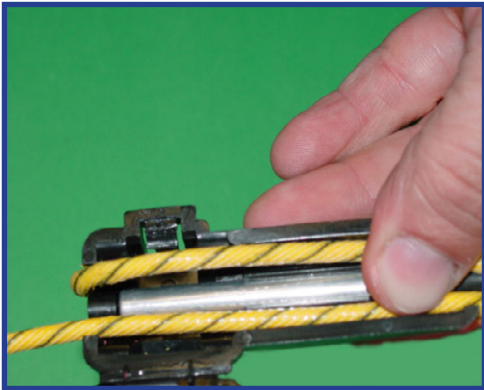

Figure 11 - Shock tube bent around nose of Bunch Block. Cut-off may result.
3. Make sure all outgoing shock tube leads are properly positioned and leave the Bunch Block in a straight line for at least 1 m (3 ft). Never bend the tubes around the nose of the Bunch Block (Figure 11), back over the top of the Bunch Block, or allow the outgoing trunkline(s) to loop back near the Bunch Block. Any of these may result in a cut-off due to shrapnel from the exploding Bunch Block.